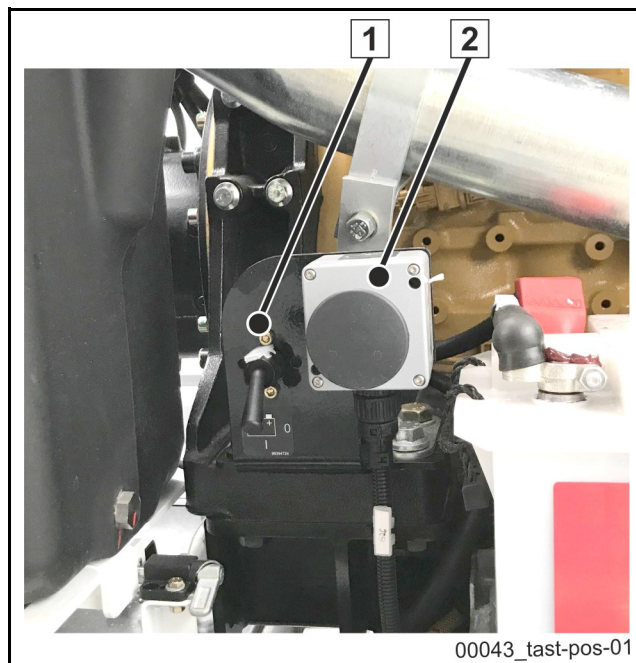

Fig. 49 Button for forced motor switch-off
- To do so, actuate the button (2) (**Fig. 49**). The button is located on the left in the direction of travel, next to the starter battery.